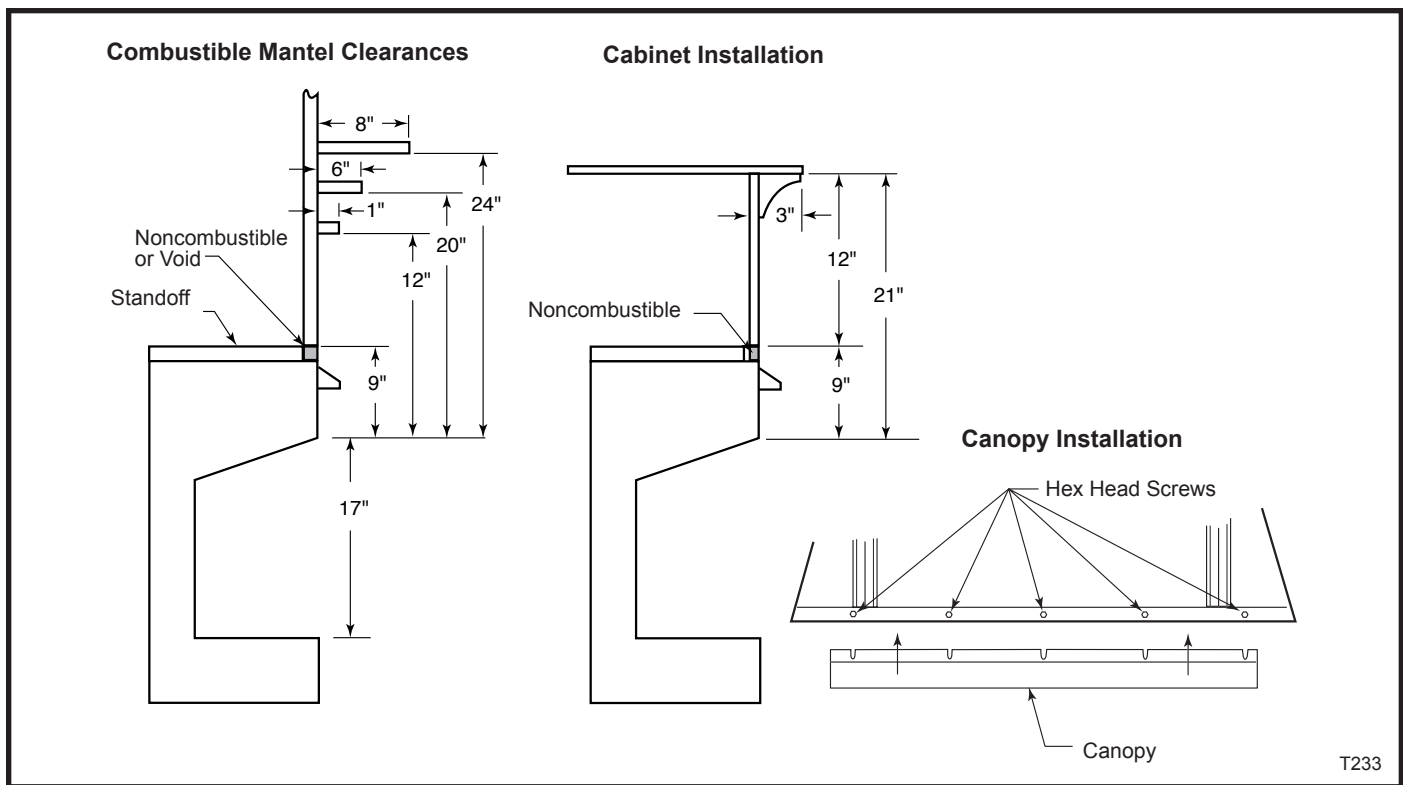

Fig. 3 Combustible mantel clearances.
The clearances to sidewalls and ceiling that are shown in Figure 3 must be considered when choosing the location for the fireplace.
- A. Noncombustible materials must be used for all wall coverings below the top standoffs of the fireplace. (Fig. 3)
- C. A combustible mantel must fall within the profile that is shown in Figure 3.
**STOP! INSTALL CANOPY AT THIS TIME BY LOOSENING THE SCREWS LOCATED AT THE TOP FRONT OF THE FIREPLACE. NEXT, SLIDE THE SLOTTED FLANGE OF THE CANOPY UNDER THE LOOSENED SCREWS, THEN RETIGHTEN THE SCREWS TO SECURE THE CANOPY.** (Fig. 3)